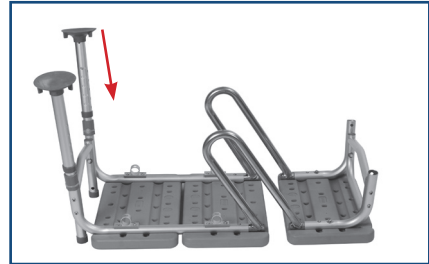

figure 3
5. Attach leg with the large suction cup (marked “A”) by depressing the push pin and inserting into the receptacle with the matching “A”. Repeat for second leg. (Figure 3)